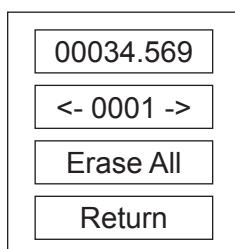

Figure 8. Data Screen
- Touch the Data tab on the Main Menu screen. Select the assay you used to collect the data. The Data screen will appear (Fig. 8). The first row shows the saved data, and the second row shows the label assigned to the data point according to sequential order of measurement. You can touch the left and right arrow key to scroll through the data points in order of measurement.